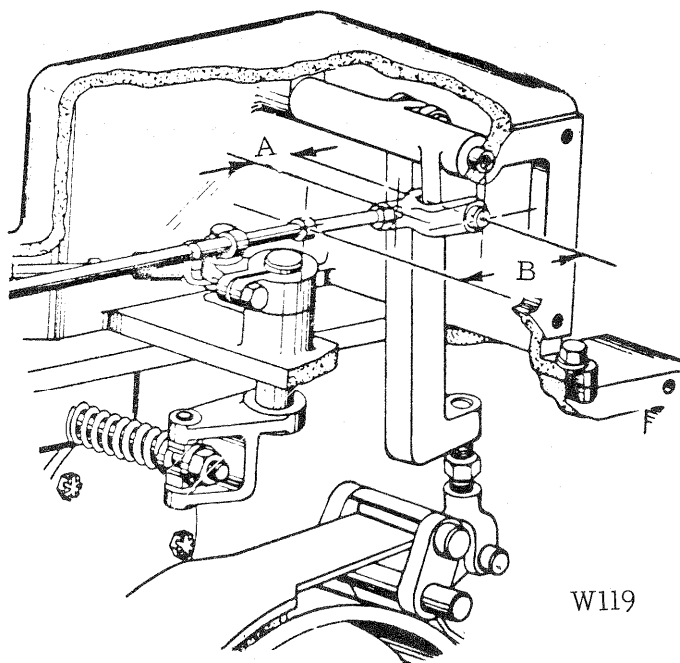

Figure 4
2. Adjust cable to dimension "A", fig. 4, by loosening the jam nut and turning the rod end on or off the cable end as necessary. Tighten the jam nut.